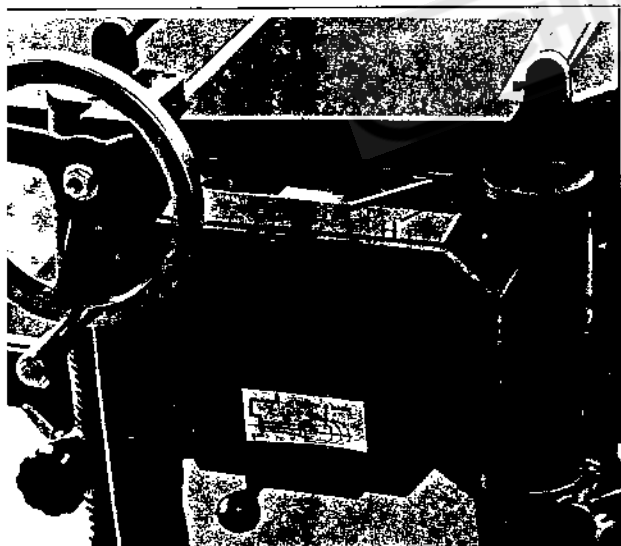

Fig. 28
- * To adjust the spring tension of the Infeed/Outfeed roller, turn the screw (G)/(H) Fig. 28. and also the screw on the opposite end of the Infeed/Outfeed roller.